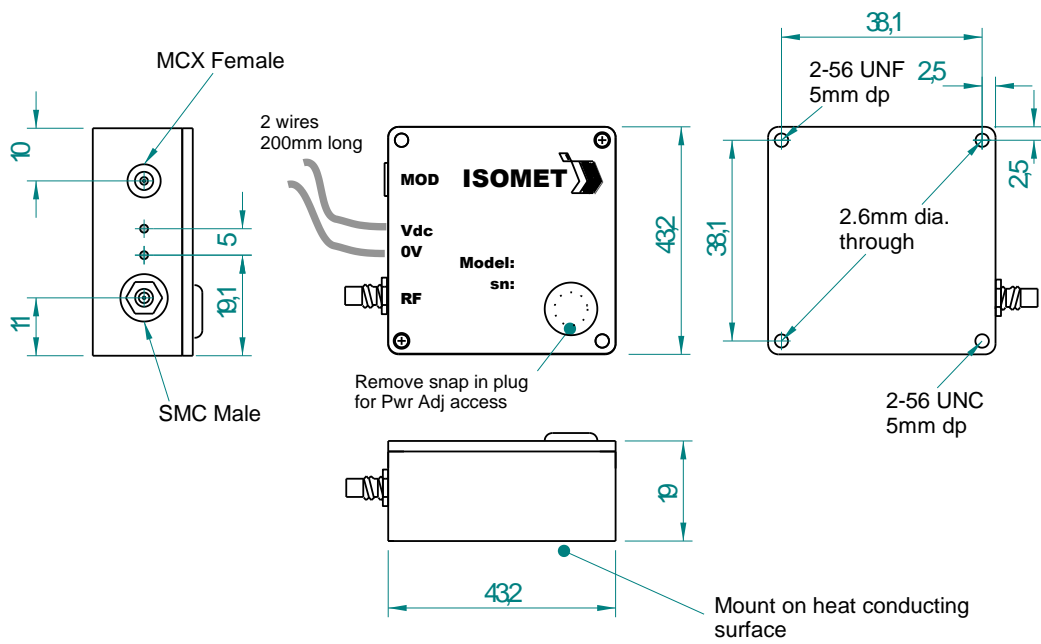

Figure 1: Driver Installation
- 3.1 Install the Driver on a heat sink as shown in figure 1. Use heat conducting compound between the Driver and mounting face and the heat sink.
- 3.2 With no d-c power applied, connect the positive (+) DC voltage to the red wires shown in figure 1. Connect the 0V or ground connection to the black wire (Some models may require an additional 5V supply. If fitted, connect the 3rd wire to +5V) DO NOT APPLY POWER.
- 3.6 If fitted, remove the PWR ADJ snap-in plugs from the driver case (see fig 1).